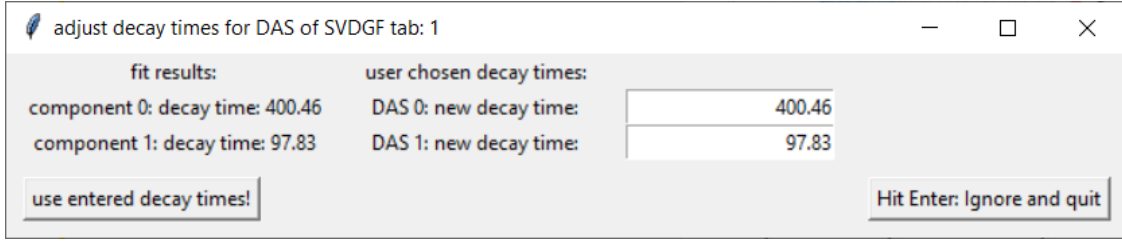

Figure 0.13 – Window to set decay constants τ_j to use in computation of Ψ_{fit} .
By default the matrix Ψ_{fit} is computed as a sum over all DAS. However, in some cases it might be useful to see how Ψ_{fit} looks with only a selection of the DAS_j used in equation (??). This is possible via the checkboxes and *update with:-* button in ⑧. There the user can make a selection of DAS to use in equation (??) via the checkboxes. Then the *update with:-* button opens a dialog window similar to the one in fig. 0.13.